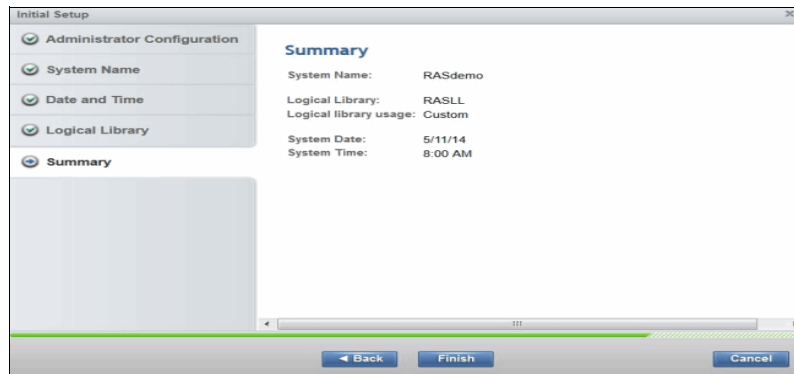

Figure 4-8 Summary
- The window that is shown in Figure 4-8 displays a summary of all of the settings that were configured in the previous steps. Select **Finish** to complete the wizard and go to the main menu.